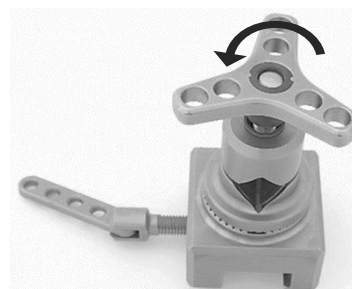

Fig. 16
Figures 16 and 17 are for illustrative purposes only and do not correspond to the EEK-1F/1S operating table mounting clamp, as the clamping section of the operating table mounting clamp shown is diamond-shaped rather than round.
Turn the star grip handle (1) anticlockwise until it can be removed (Fig. 16).